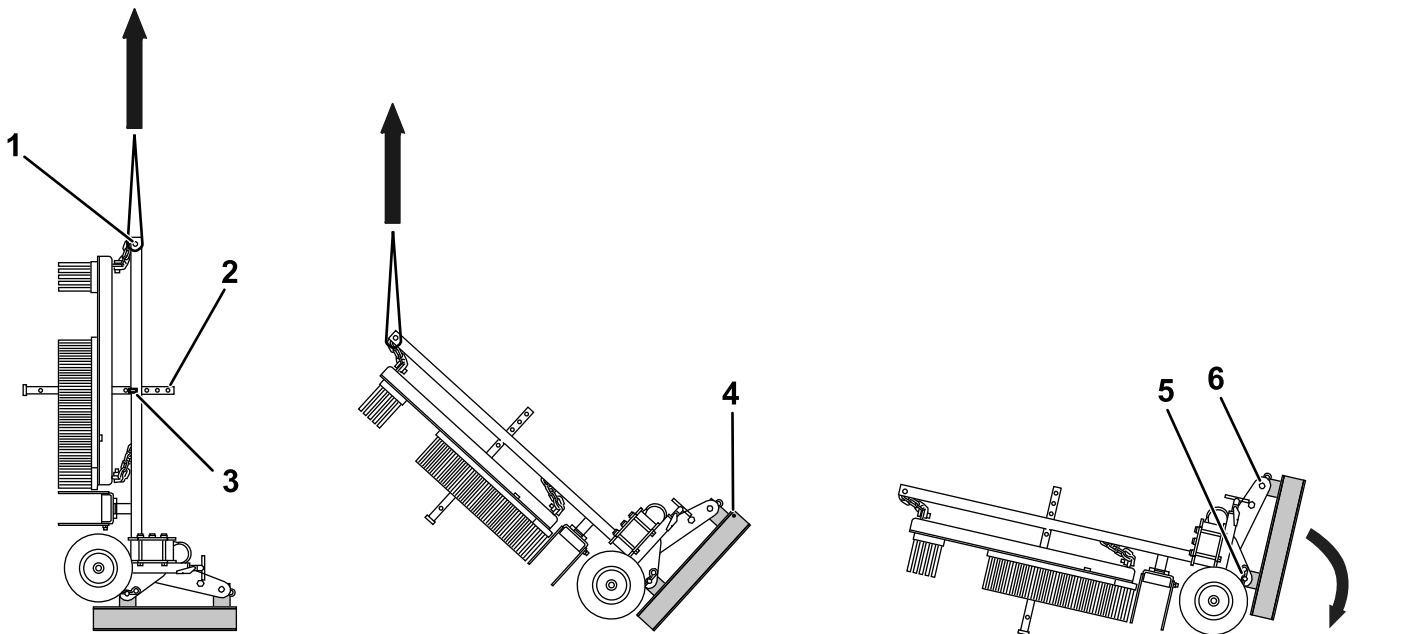

Figure 4
5. Gently lower the attachment in a controlled way as shown in Figure 4 until it is on the ground.